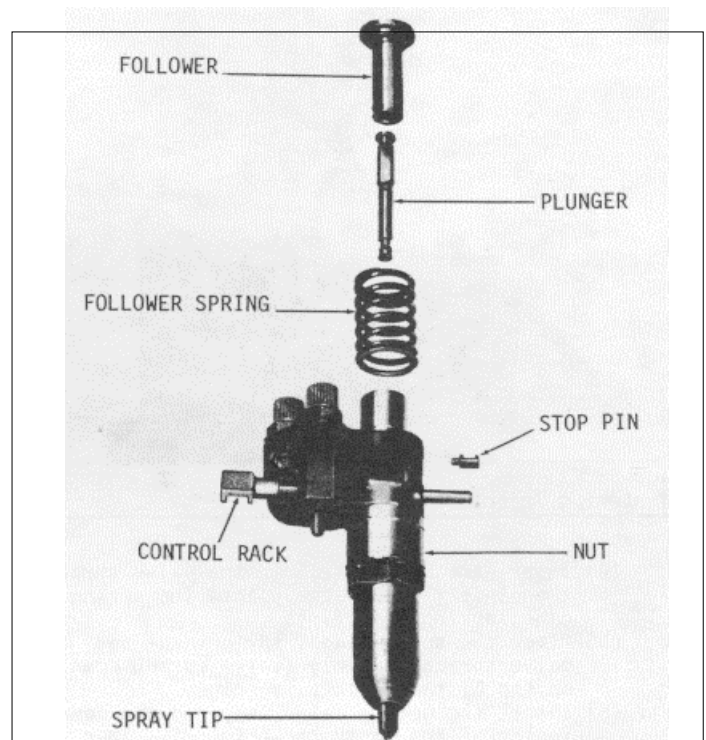
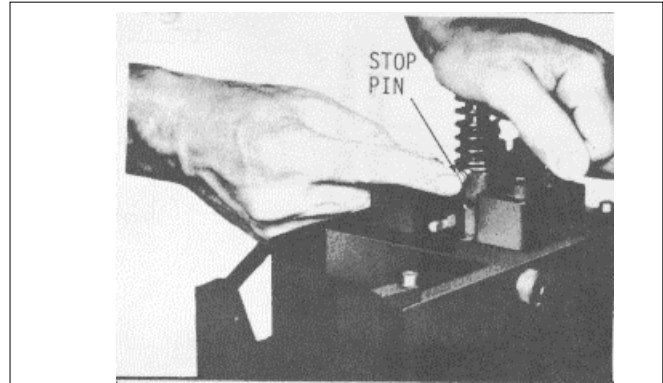

Fig. 38
Fig. 41
- (1) Refer to Fig. 38 and slide the head of the plunger into the follower.
- (2) Invert the injector in the assembly fixture (filter cap end up) and push the rack all the way in. Then place the follower spring on the injector body.
- (3) Refer to Fig. 41 and place the stop pin on the injector body so that the follower spring rests on the narrow flange of the stop pin. Then align the slot in the follower with the stop pin hole in the injector body. Next, align the flat side of the plunger with the slot in the follower. Then insert the free end of the plunger in the injector body. Press down on the follower and, at the same time, press the stop pin into position. When in place, the spring will hold the stop pin in position.